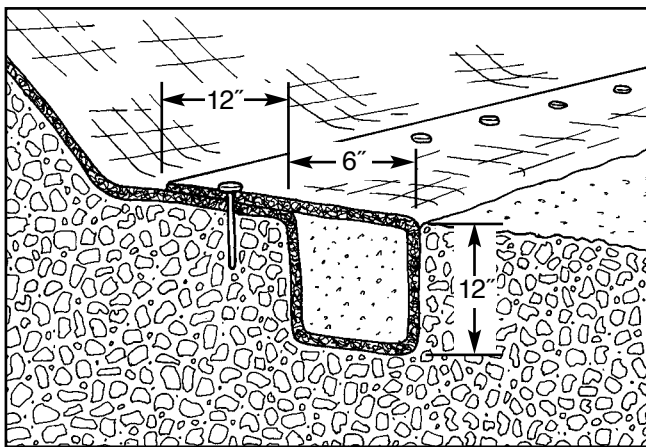

FIGURE 3
- ▶ Excavate a 12 x 6 in (300 x 150 mm) key anchor trench at toe of slope (see Figure 3).
- ▶ Place bottom end of mat into key anchor trench at toe of slope and secure to bottom of trench using suggested ground anchoring devices (see Tables 1 and 2) spaced every 12 in (300 mm) minimum. Backfill and compact soil into trench (see Figure 3).
- ▶ If the potential for standing and/or flowing water exists at the toe of slope, the key anchor trench at the toe detail (see Figure 3) is not sufficient. Consult the project engineer for the appropriate detail.